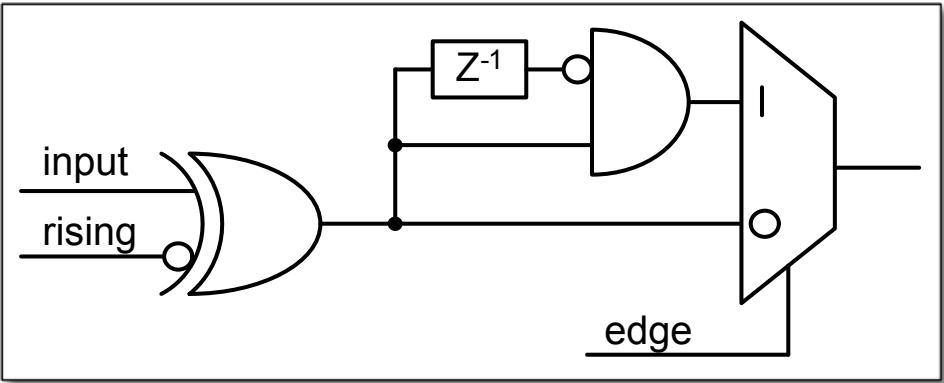

Figure 2.17: The digital inputs Trigger, GATE, BUS0, BUS1, BUS2 and BUS3 have simpler trigger units.
The configuration is set via the structure's `trigger[8]` and `trigger[9]` in the *configuration structure*. The input circuit is shown in Figure 2.17.
- The GATE input (Figure 2.17)
- The Trigger or TDC input (Figure 2.17)